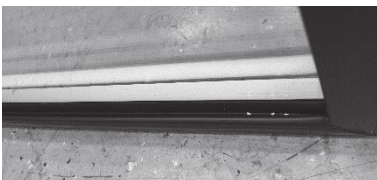

Fig. 10: Cleaning seals
- Remove contamination and ice from seals (see → Fig. 10). Clean seals from top to bottom.